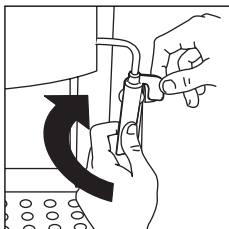

fig. 22
2. With one hand, hold the cappuccino tube firmly and with the other unscrew the cappuccino maker itself by rotating clockwise and extracting downwards (fig. 22).